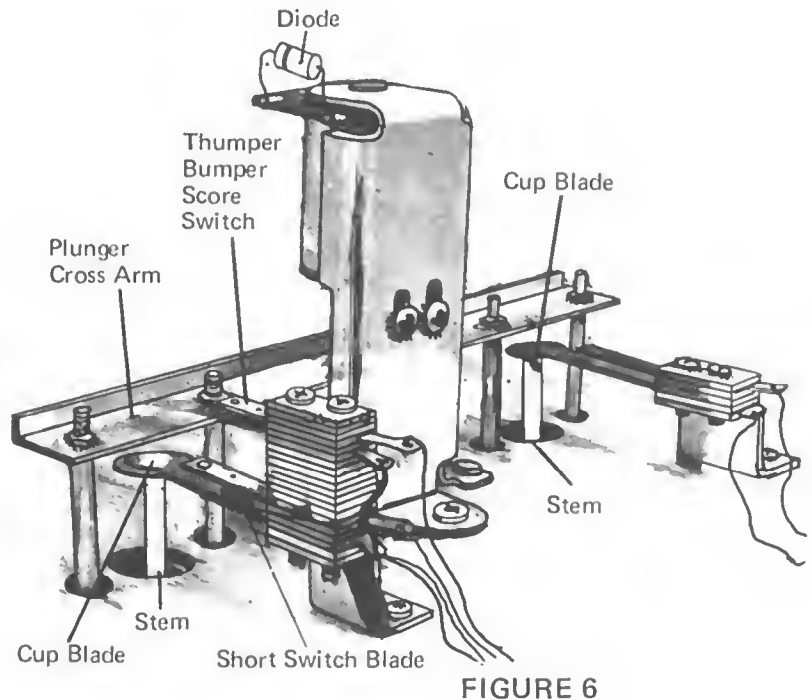
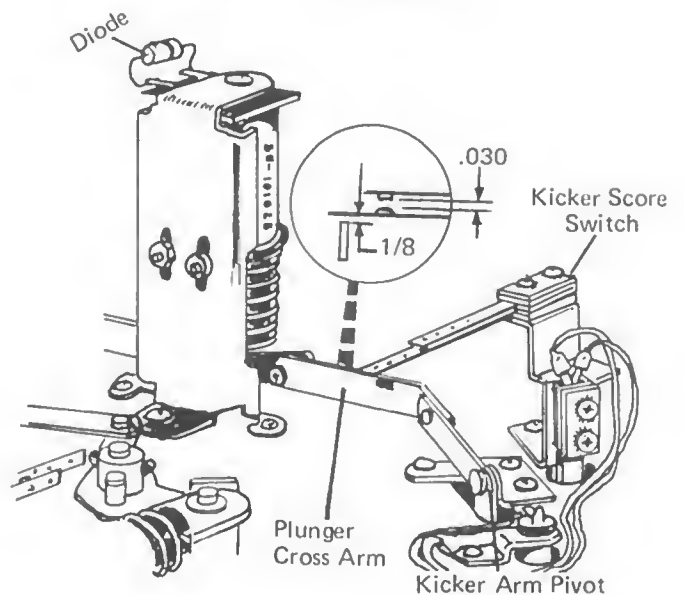

FIGURE 6
FIGURE 7
Adjust the cup blade so that the stem touches the center of the cup as shown in Figure 6. This insures a uniform action of the thumper bumper.
## 17. Adjust the thumper bumper score switch or the kicker score switch as follows: Gently bend the long blade of switch until it is 1/8 inch from the plunger crossarm. See (Figure 6 or 7). Gently bend the short switch blade so that the contacts are approximately .030 inch apart for the kicker score switch, (See Figure 7), and .040 inch apart for the thumper bumper score switch. (See Figure 6).
30. Carefully inspect underneath playfield and on score unit assembly for: (A) broken, missing, loose, or excessively worn parts; (B) loose or broken wire terminals.
32. If Circuit Breaker No. 2 "trips" only when thumpers are activated, replace diode across terminals of thumper solenoid (see **Figure 6, Page 12**).
If Circuit Breaker No. 2 "trips" only when kickers are activated, replace diode across terminals of kicker solenoid (see **Figure 7, Page 12**).